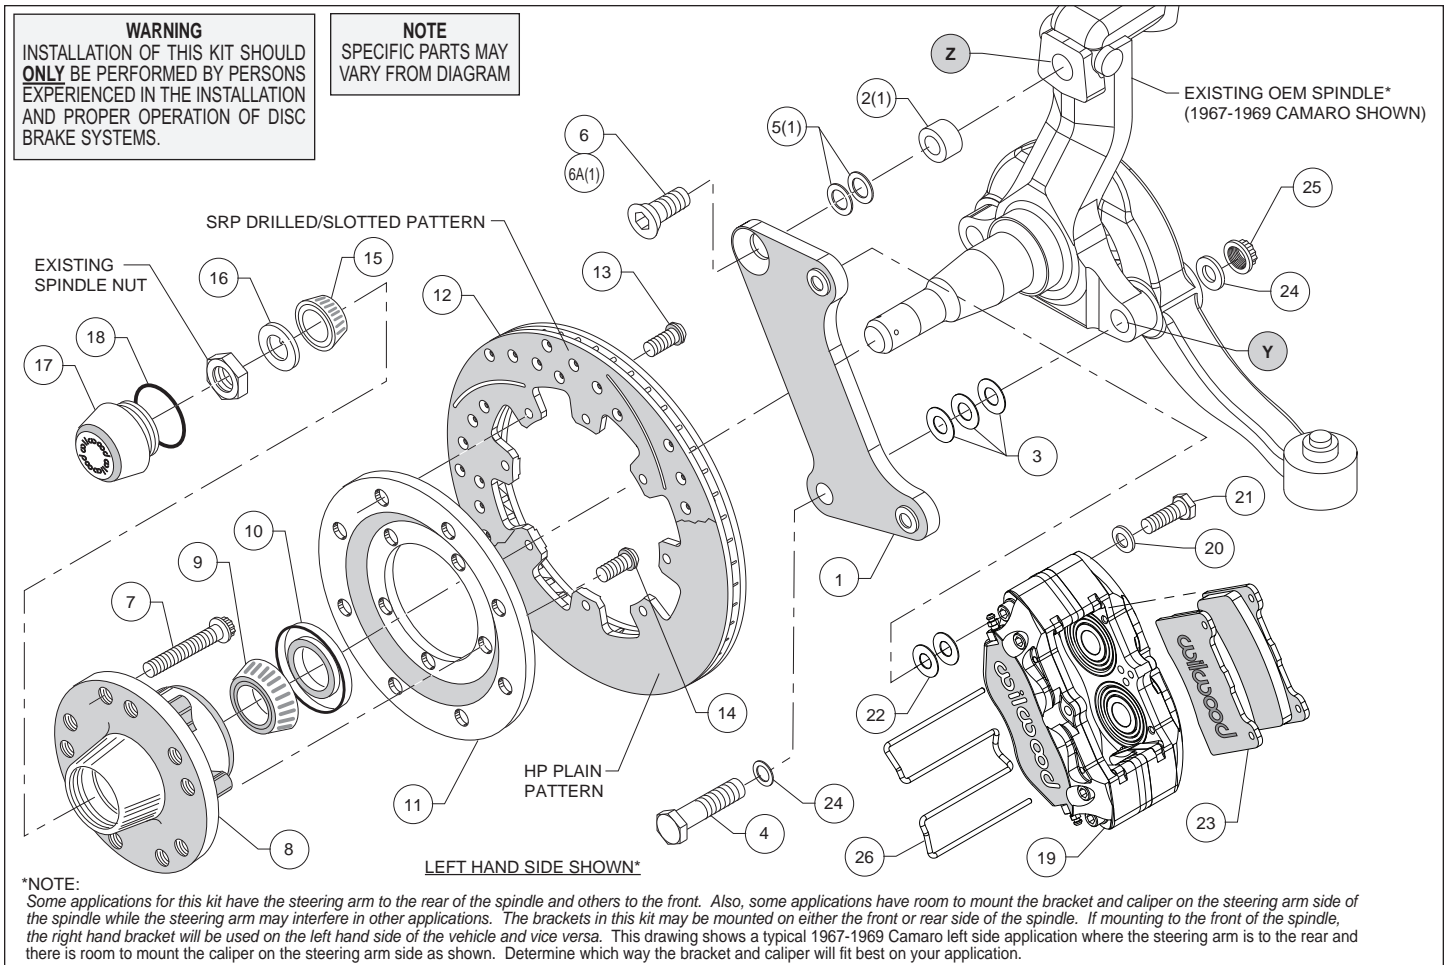
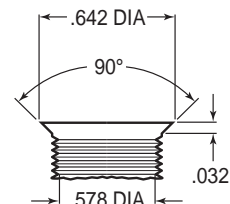
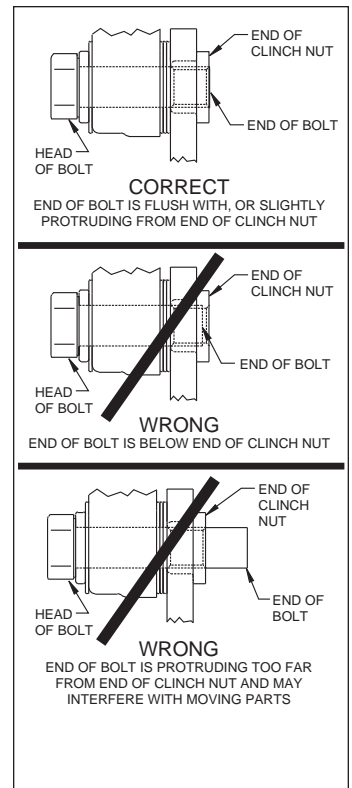

Figure 1. Typical Installation Configuration
Figure 3. Drill and Tap Detail
Figure 4. Clinch Nut Engagement Diagram
Assembly Instructions (numbers in parenthesis refer to the parts list and Figure 1 on the preceding page): **CAUTION:** All mounting bolts must fully engage clinch nuts. Be sure to check that all bolts are either flush or protruding through flanged side of clinch nut after shimming, Figure 4.
•**NOTE:** Some applications for this kit have the steering arm to the rear of the spindle and others to the front. Also, some applications have room to mount the bracket and caliper on the steering arm side of the spindle while the steering arm may interfere in other applications. The brackets in this kit may be mounted on either the front or rear side of the spindle. If mounting to the front of the spindle, the right hand bracket will be used on the left hand side of the vehicle and vice versa. Figure 1 shows a typical 1967-1969 Camaro left side application where the steering arm is to the rear and there is room to mount the caliper on the steering arm side as shown. Determine which way the bracket and caliper will fit best on your application.
•**NOTE:** Some spindles in this year range may require the following modifications (reference Figure 1 and Figure 3): Top anchor pin hole (Z) must be drilled and tapped to the dimensions as outlined in Figure 3. The lower bolt hole (Y) in the spindle used to mount the new caliper bracket, and the mating steering arm hole, must be enlarged to .50" by drilling. It is recommended these modifications be performed by a qualified machinist.
•Install wheel studs (7) into the hub (8), Photo 1. Torque to 77 ft-lb. **NOTE:** There are two five lug patterns in the hub (5 x 4.50 and 5 x 4.75). Ensure the correct hub stud pattern is being used to fit the wheel application.
- Orient the rotor (12) and the rotor adapter (11) as shown in Figure 1 and Photo 3. Attach the rotor to the adapter using bolts (13). Using an alternating sequence, apply red *Loctite*® 271 to the threads, and torque to 25 ft-lb.
- Mount the adapter/rotor assembly (11 and 12) to the hub (8) using bolts (14), as shown in Figure 1 and Photo 4. Using an alternating sequence, apply red *Loctite*® 271 to the threads, and torque to 45 ft-lb.
- Disc Brake Spindle Application Only:** Follow the instructions below, but instead use bolt (6A), spacer (2), and two .050" thick washers (5) in the upper bolt hole location, Figure 1.
- Orient the flat bracket (1) as shown in Figure 1 and Photo 5, and install using bottom bolt (4), washers (24), and nut (25), Figure 1. Initially place three .032" thick shims (3) between the bracket and spindle. Install the upper bolt (6 or 6A), Photo 6. Temporarily tighten bolts. **NOTE:** *The bracket must fit squarely against the mounting surfaces on the spindle.* Inspect for interference from casting irregularities, machining ridges, burrs, etc. Ensure that the flanged heads of the clinch nuts in the bracket are facing outboard. Temporarily install the hub/rotor assembly. Check that the bracket is aligned parallel to the rotor, Photo 7. If not, adjust by adding or subtracting shims (3) on the lower bolt between the bracket and spindle, Figure 1. Once the bracket alignment is correct, remove the upper bolt (6 or 6A), apply red *Loctite*® 271 to the bolt threads, and torque to 120 ft-lb. Torque the lower lock nut to 65 ft-lb.
- Screw dust cap (17) into hub (8). Friction created by the o-ring (18) on the dust cap keeps it from unscrewing. **NOTE:** *The O.D. of the existing OEM spindle washer may be larger than the I.D. of the dust cap not allowing it to seat against the hub face. Therefore, use the spindle washer (16) supplied with the kit instead of the OEM washer.*
- NOTE:** *Please reference the caution statement at the beginning of the assembly instructions.* Mount the caliper (19) onto the caliper bracket (1) using bolts (21) and washers (20), as shown in Figure 1. Initially place two .035" thick shims (22) on each bolt between the caliper and the bracket, Photo 9. Temporarily tighten the mounting bolts and view the rotor (12) through the top opening of the caliper. The rotor should be centered in the caliper, Photo 10. If not, adjust by adding or subtracting shims (22) between the bracket and the caliper. Always use the same amount of shims on each of the two mounting bolts. **NOTE:** *The end of the bolt must be flush with or slightly*
protuding from the head of the clinch nut in the bracket. If necessary, place spare shims between the washer and the caliper mounting ear to achieve the proper clinch nut engagement, as shown in Figure 4. Once the caliper alignment is correct, remove the bolts one at a time, apply red Loctite® 271 to bolt threads, and torque to 40 ft-lb.